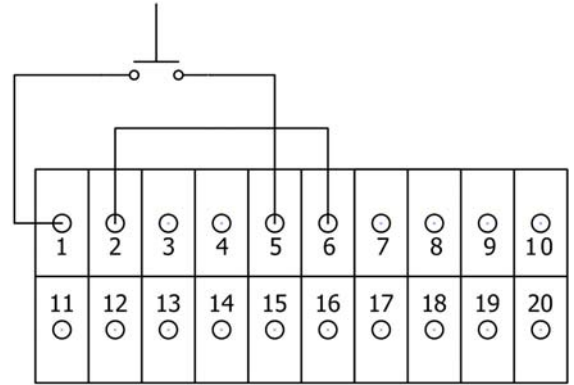

Figure 17. 24VAC Internal
- a. Connect the green jumper wire (supplied) to terminals 2 & 6 (see Figure 17).